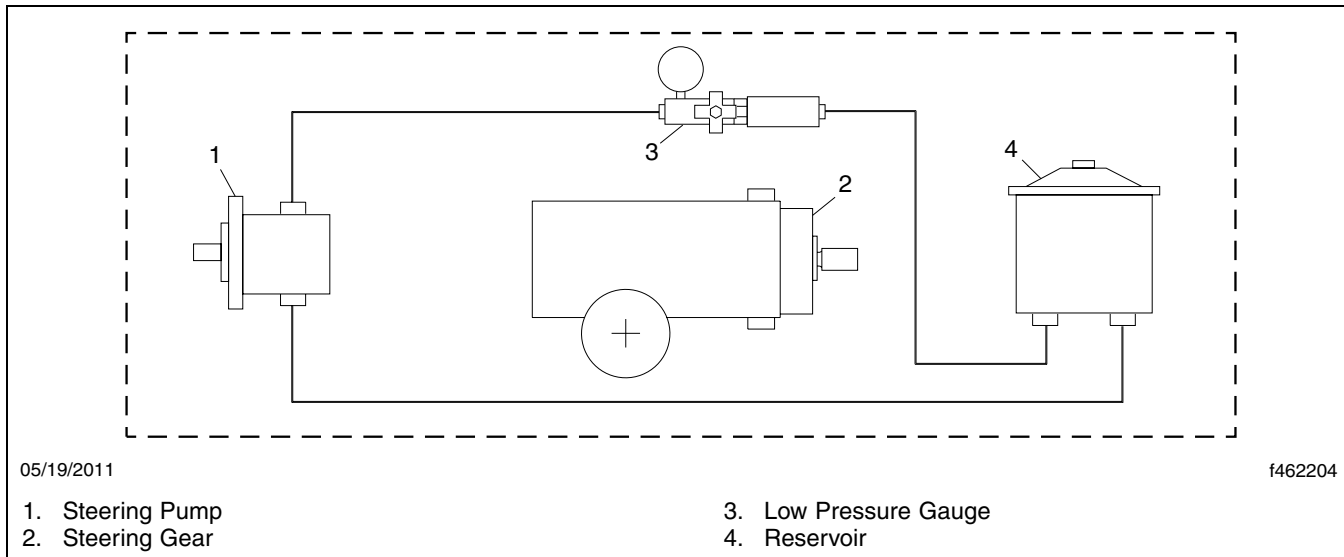

Fig. 5, Testing Steering Gear Restriction
- Bypass the steering gear by disconnecting the steering gear input and output lines from the gear and coupling them together. See **Fig. 5** for an example. If the drop in system pressure from the value found in substep 5.3 is greater than 55 psi (379 kPa), the steering gear has excessive restriction. If the drop in pressure is less than 55 psi (379 kPa), reconnect the gear input and output lines to the gear and continue with this substep.